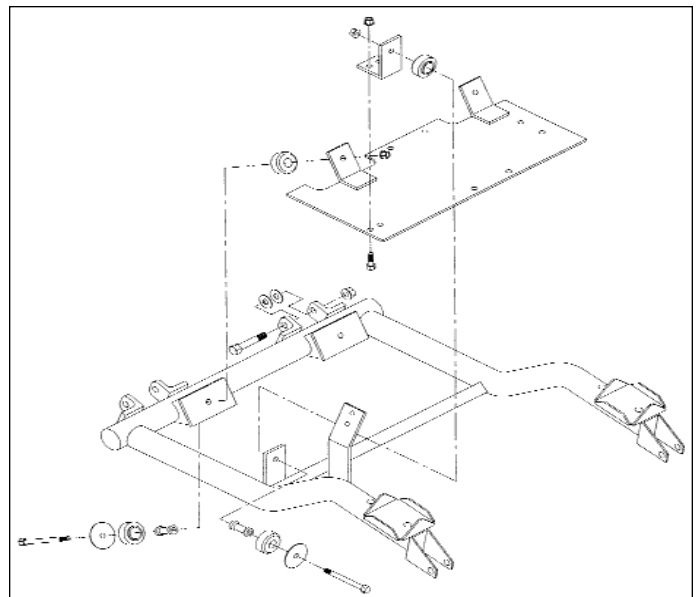

**Figure 16 - Rear Fork Bushing and Bolt**
8. Remove two bolts with washers from rear fork mounts. Separate fork from frame. See Figure 16.